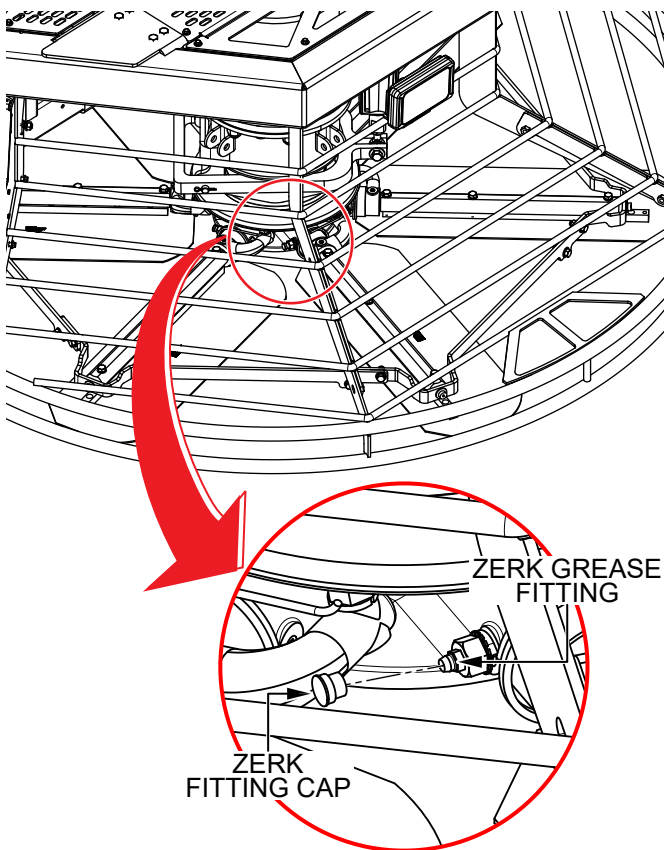

Figure 67. Spider Lubrication
1. Locate one of the Zerk grease fittings on either spider assembly (Figure 67). Remove the Zerk fitting cap and set it aside.